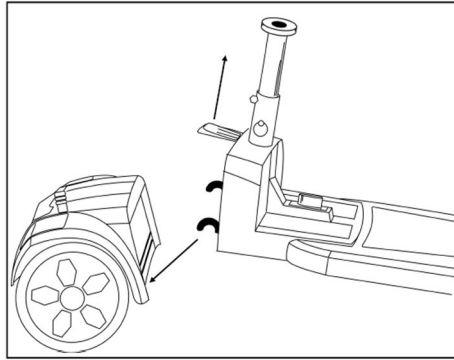

Figure 21: Connecting Frame and Drivetrain
2. Lower the frame onto the drivetrain until the drivetrain releases lever engages. You should hear an audible click. See *figure 21*.